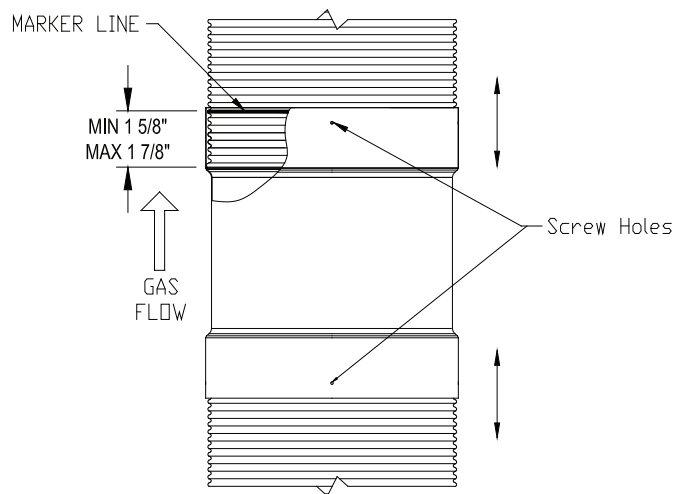

Figure 17 - Secure Seal Flex dry fit test
- 1.2. To make sure that everything is airtight before putting the sealant between both tubes, do a dry fit test by pushing the liner into the adapter until it reaches the bottom of the flare between the inner wall and the outer wall, then remove it (Figure 17).